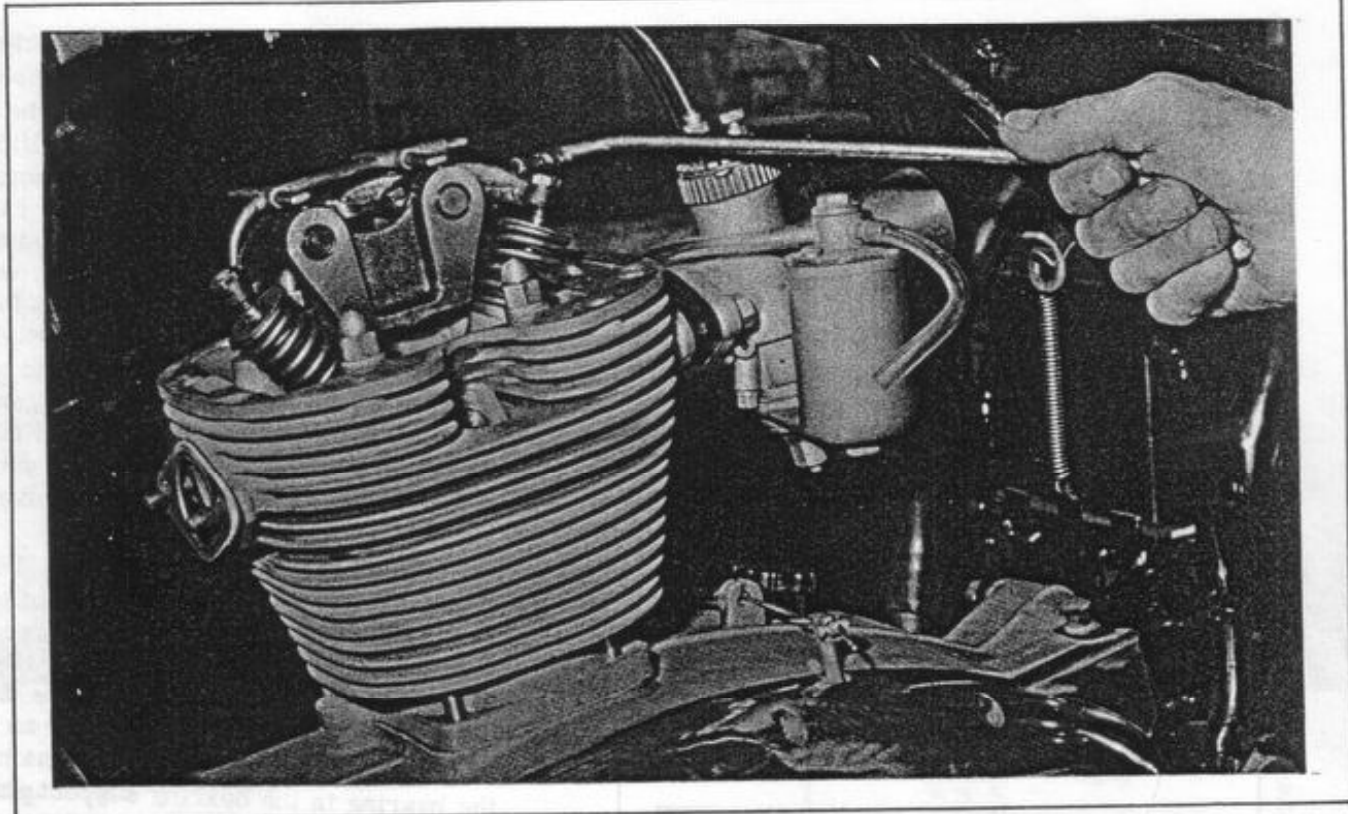

Figure 20.
3. Use tool LL to lift the rocker arms as shown in Figure 20. Take out the push rods. The longer rod is for the exhaust valve and is mounted on the outside.